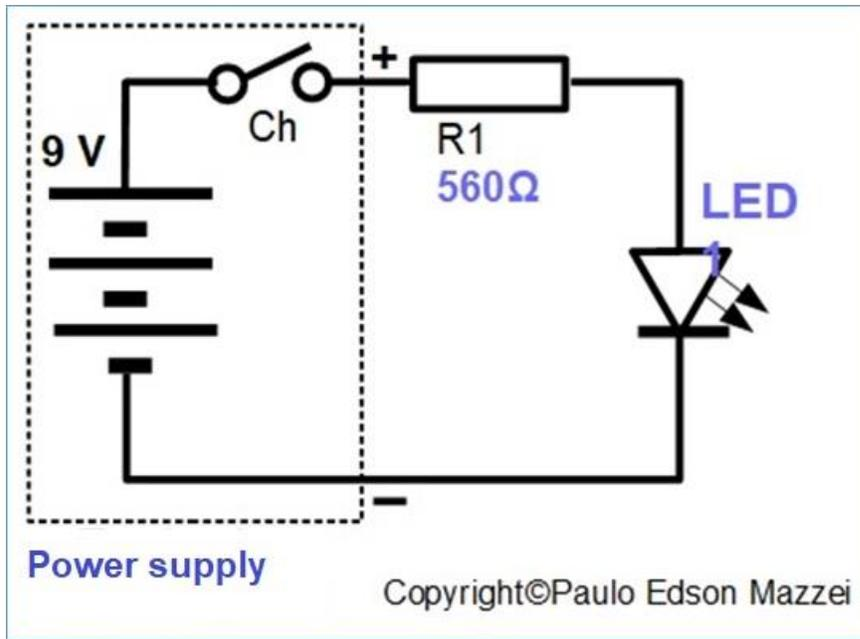

Figure 75 - Schematic diagram of the LED circuit.
- a. Let us now use the Protoboard and mount the circuit with LED. The circuit is shown in **figure 75**.